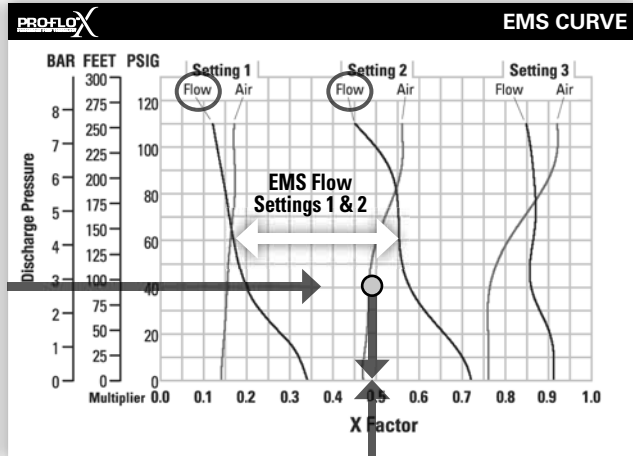

Figure 5
Step 4: Determine EMS setting from the flow X Factor. Plot the point representing the flow X Factor (0.49) and the application discharge pressure 2.8 bar (40 psig) on the EMS curve. This is done by following the horizontal 2.8 bar (40 psig) psig discharge pressure line until it crosses the vertical 0.49 X Factor line. Typically, this point lies between two flow EMS setting curves (in this case, the point lies between the flow curves for EMS setting 1 and 2). Observe the location of the point relative to the two curves it lies between and approximate the EMS setting (figure 5). For more precise results you can mathematically interpolate between the two curves to determine the optimal EMS setting.